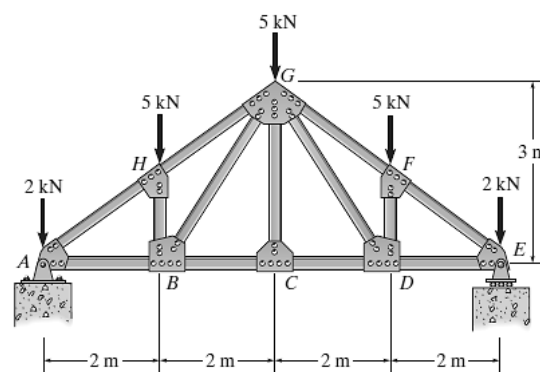

Fig. 5
5. The Howe truss is subjected to the loading shown. Determine the forces in members **GF**, **CD**, and **GC**. State if the members are in tension or compression. Assume all members are pin connected. (Fig. 5)